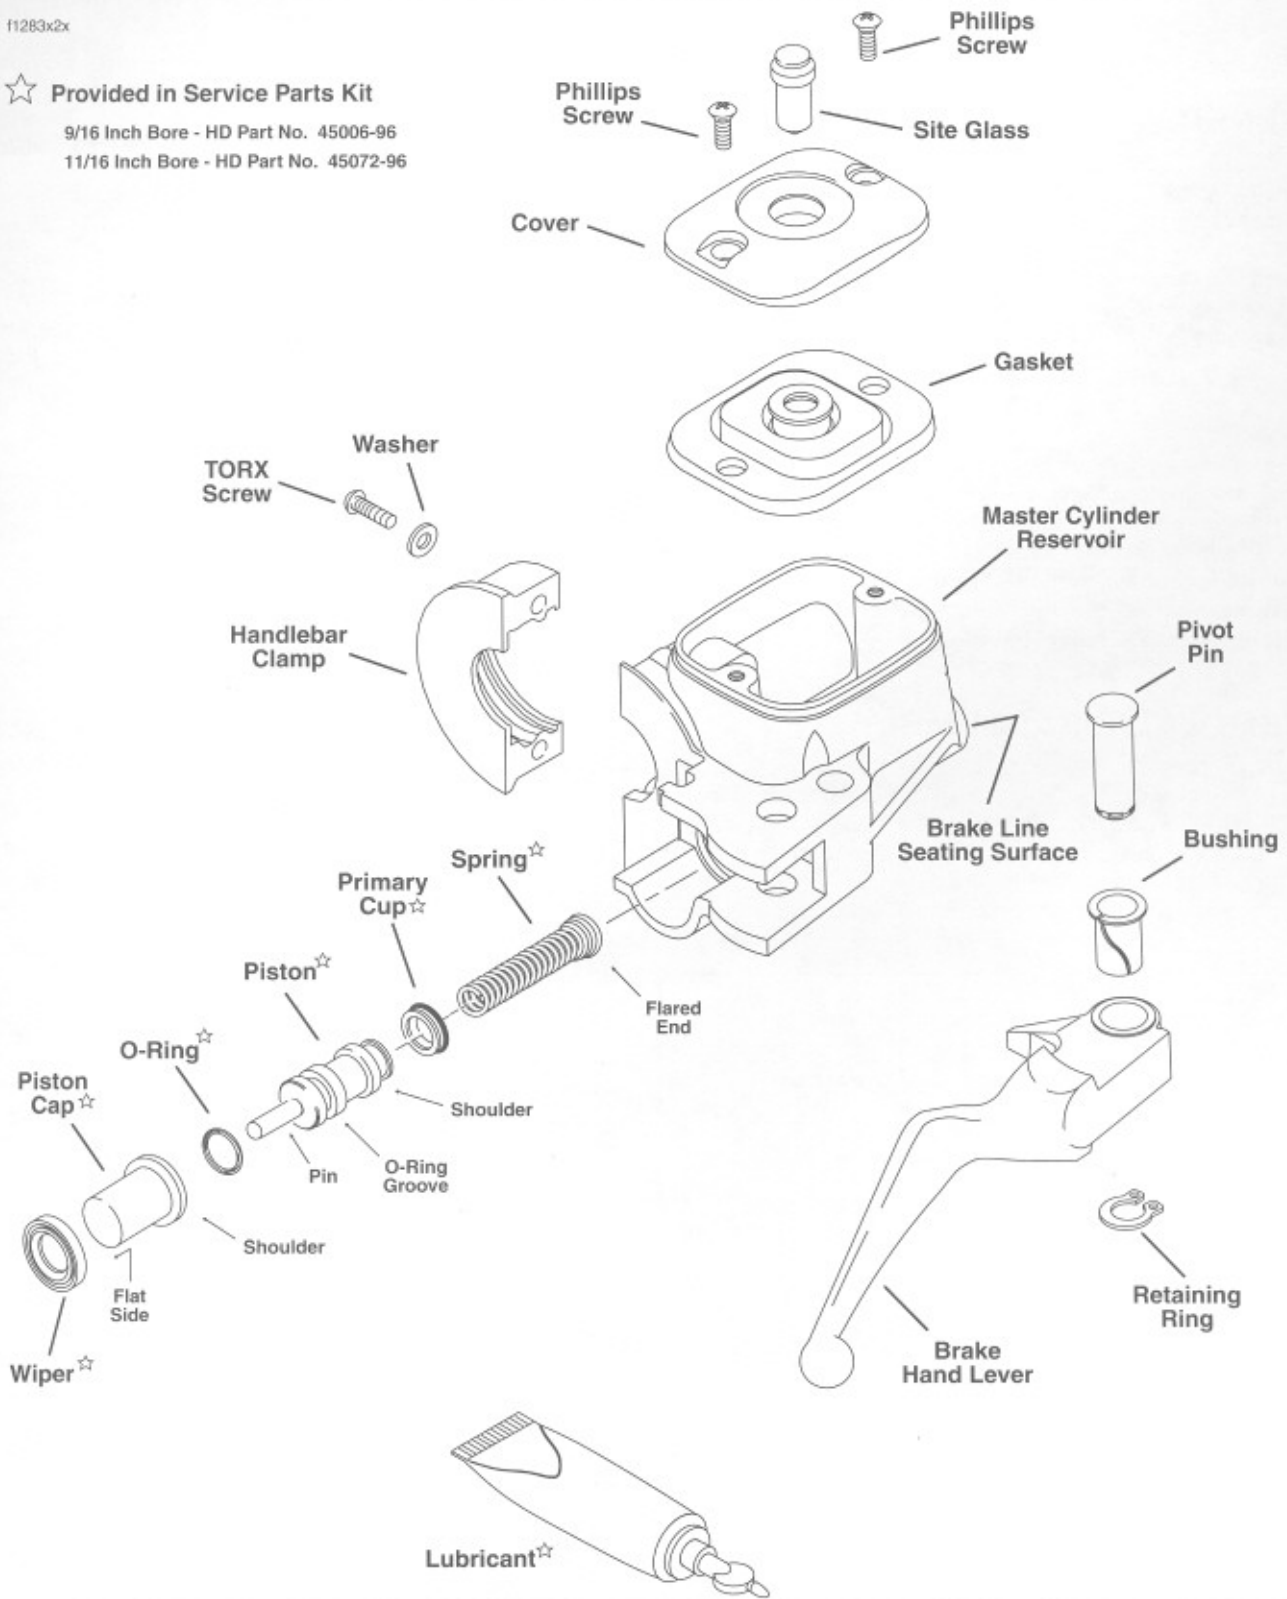

Figure 2-44. Front Brake Master Cylinder Assembly
4. Using a T27 TORX drive head, remove the two screws with flat washers securing the handlebar clamp to the master cylinder housing. Remove the brake lever/master cylinder assembly and clamp from the handlebar. See Figure 2-44.
1. Fit O-ring into groove at front of piston (pin side). See Figure 2-44.